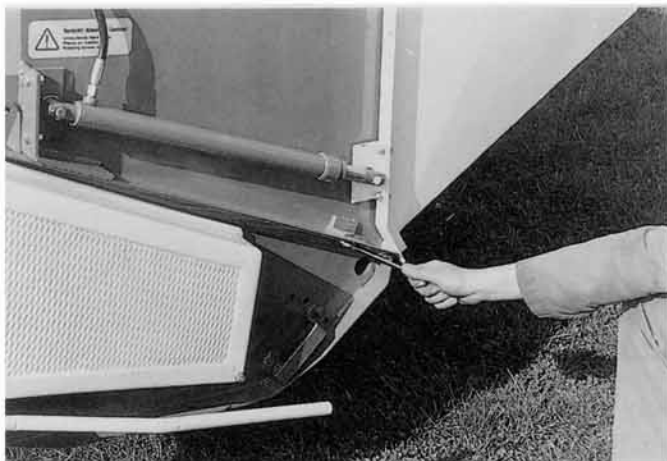

fig. 6
- Remove the two fastening screws of the hood (SW 17) (Fig. 6),